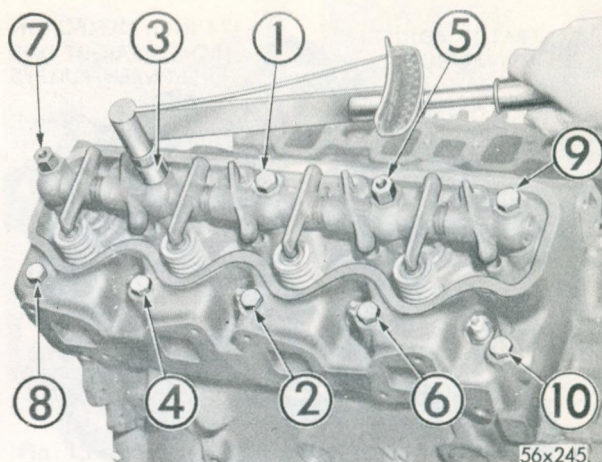

Fig. 8—Tightening Cylinder Head Bolts (SpitFire)
7. Insert cylinder head bolts into rocker arm support brackets and place rocker arm assemblies in position on head, lining up all push rods to their respective rocker arms. Starting at top center, tighten all cylinder head bolts to 60-80 foot-pounds torque, in sequence shown in Figure 8 and 9. Then repeat the procedure, tightening all head bolts to 85 foot-pounds torque. Place **new** valve tappet cover gaskets in position, and install tappet cover. Tighten bolts to 50 inch-pounds torque. Install crankcase breather tube on tappet cover and insert oil level indicator (dip stick) tube into position. Install **new** cylinder head cover gasket and install cover. Tighten nuts and bolts to 30 inch-pounds torque. On FirePower engines slide spark plug tube seals over tubes, and install in position in heads. Check spark plugs for .035 inch gap and install plugs, being careful not
Position rocker arm assemblies. Install cylinder head bolts. Tighten bolts 60-80 foot-pounds torque in sequence shown in Figures 8 and 9. Then repeat the procedure, tightening all head bolts to 85 foot-pounds torque.